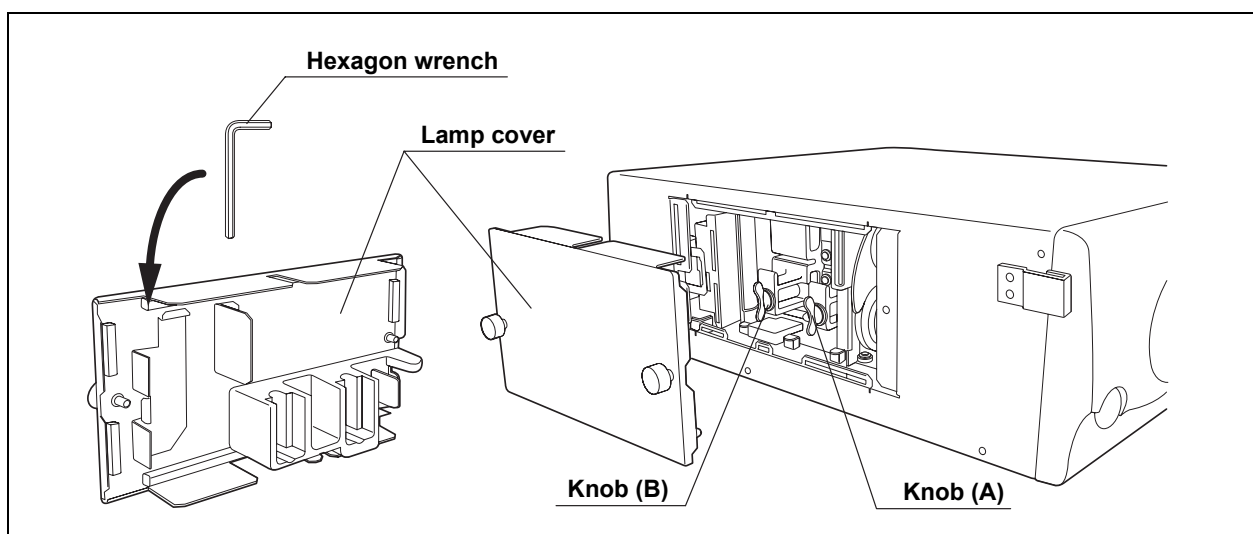

Figure 6.7
16. First secure heat sink (B) by turning knob (B) clockwise by 90°, then secure heat sink (A) by turning the knob (A) clockwise by 90°.
17. Store the hexagon wrench back on the rear of the lamp cover. Then close the lamp cover securely (see Figure 6.7).